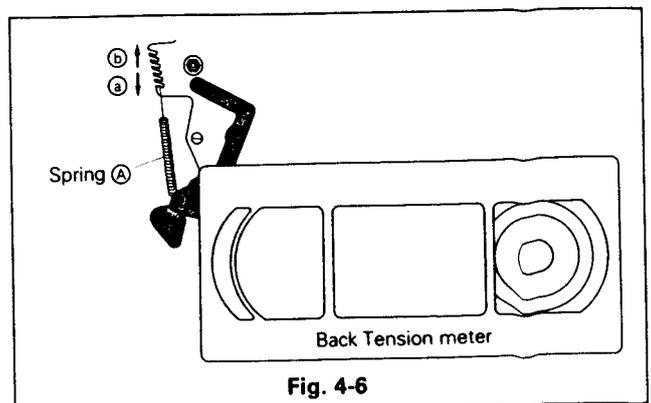

Fig. 4-6
- If the mean value exceeds $38g\text{-cm}$ adjust the value to $34g\text{-cm}$ by adjusting the location of the spring (A) in the direction of arrow (a) as shown in Fig. 4-6.
- If the pointer mean value is much less than $30g\text{-cm}$, adjust it to $34g\text{-cm}$ by adjusting the location of the spring (A) in the direction of arrow (b).